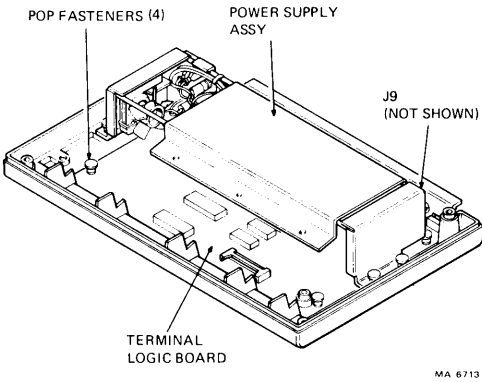

Figure 5-5 Power Supply Assembly Removal
4. Release the four (4) pop fasteners securing the power supply assembly to the terminal (Figure 5-5). To release the pop fasteners pull up on the plungers.